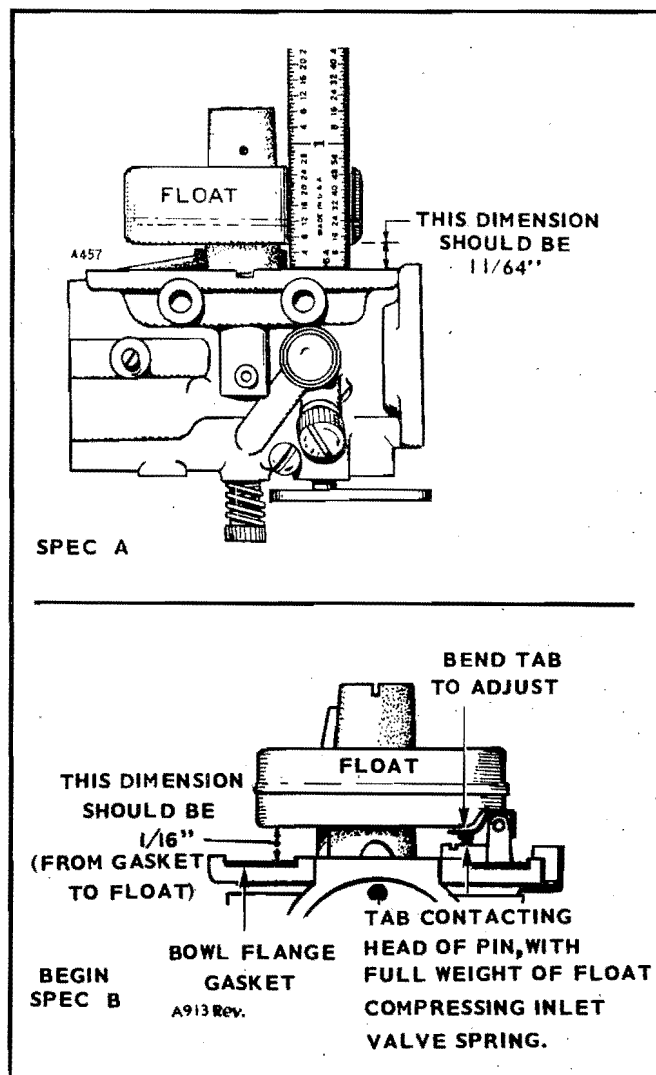

FIGURE 14. SETTING FLOAT LEVEL
Check the adjusting needles and nozzle for damage. If the float is loaded with fuel or damaged, replace. The float should fit freely on its pin without binding. Invert the carburetor body and measure the float level (Figure 14).
6. Check the float level with the carburetor casting inverted. See Figure 14.